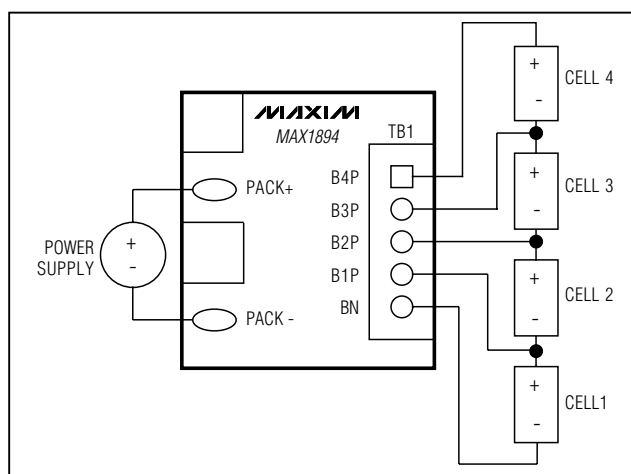

Figure 1. Connecting the Li+ Cell, Power Supply, and Voltmeter
- 4) See Figure 1 for connecting the Li+ cells (steps 5 to 12).
- 1) See Figure 1 for connecting the power supply (steps 2 and 4 below). The power supply should be current limited to no more than the C rate of the battery pack.